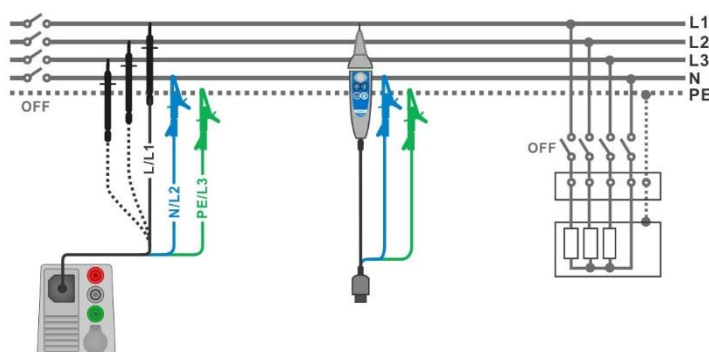

Figure 7.12: Connection of 3-wire test lead and Tip commander
- › Connect test leads to object under test (see **Figure 7.12**).